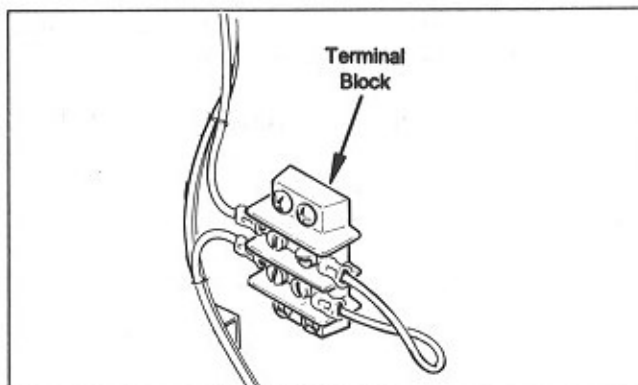

Figure 7. Terminal Block
2. Remove the factory installed wire between terminals 1 and 2 on the terminal strip (see Fig. 7).